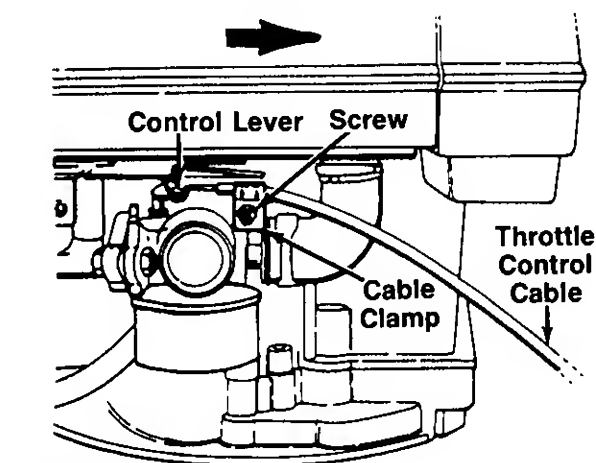

FIGURE 5B.—Model 120899R
2. The throttle control cable is attached to the upper handle. Route the throttle control cable under the lower handle and to the **outside** of the handle wheel bracket assembly and height adjustment lever. Hook the "Z" end of the throttle control cable into the control lever on the engine as shown in figure 5B or 5C.
3. Loosen (do not remove) the screw on the cable clamp shown in figure 5B or 5C. Slip the control casing under the clamp (cable must move freely beneath the clamp).